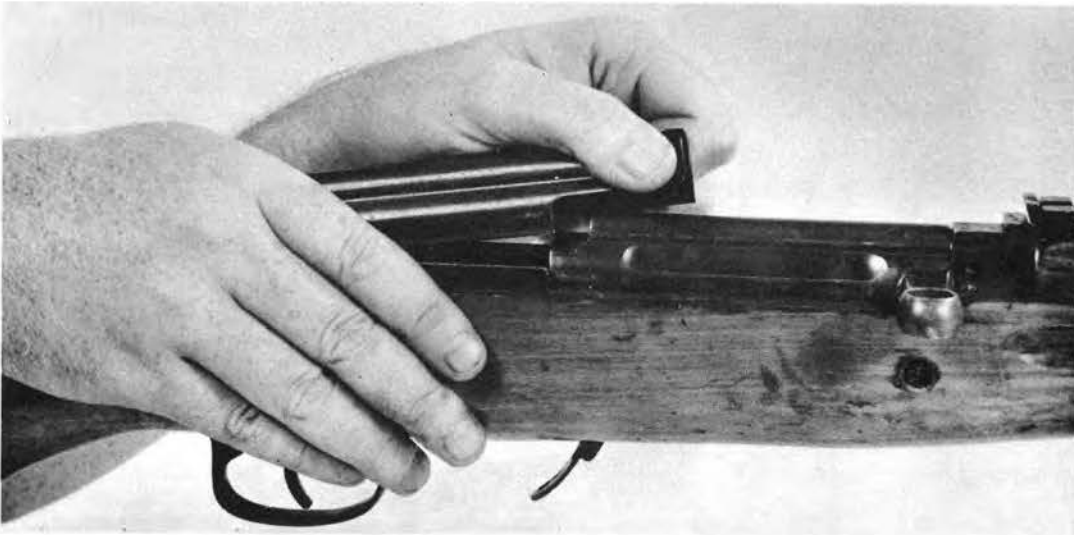
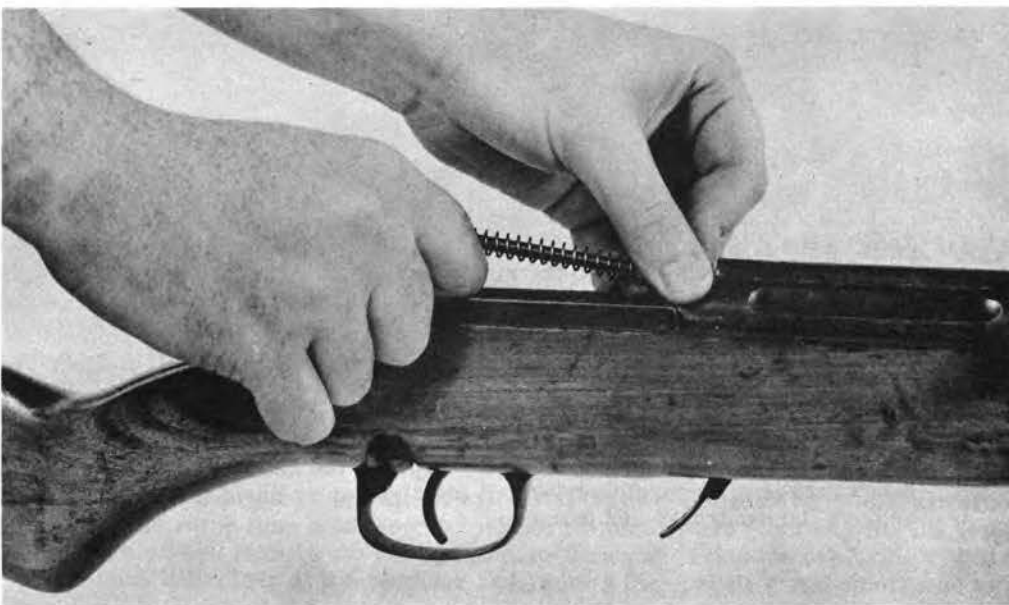

FIGURE 62. REMOVING BOLT COVER.
FIGURE 63. REMOVING DRIVING SPRING.
- (6) Remove the bolt. Slide the bolt cover forward to give space to press the driving spring rod forward and down sufficiently to release it from the notch in the cover. Slide the cover forward and remove it (fig. 62); at the same time release the driving spring rod slowly, letting it move backward out of the bolt until it stops on the rear of the receiver. Both the operating spring and the guide rod are in two sections. Grasp the forward section with one hand and the rear section with the other hand, and compress the two sections. Remove them while they are compressed (fig. 63). Pull the bolt back almost to the rear, and then move it upward to remove it (fig. 64). Grasp the bolt with the thumb and index finger, and lift it out of the bolt slide (fig. 65).